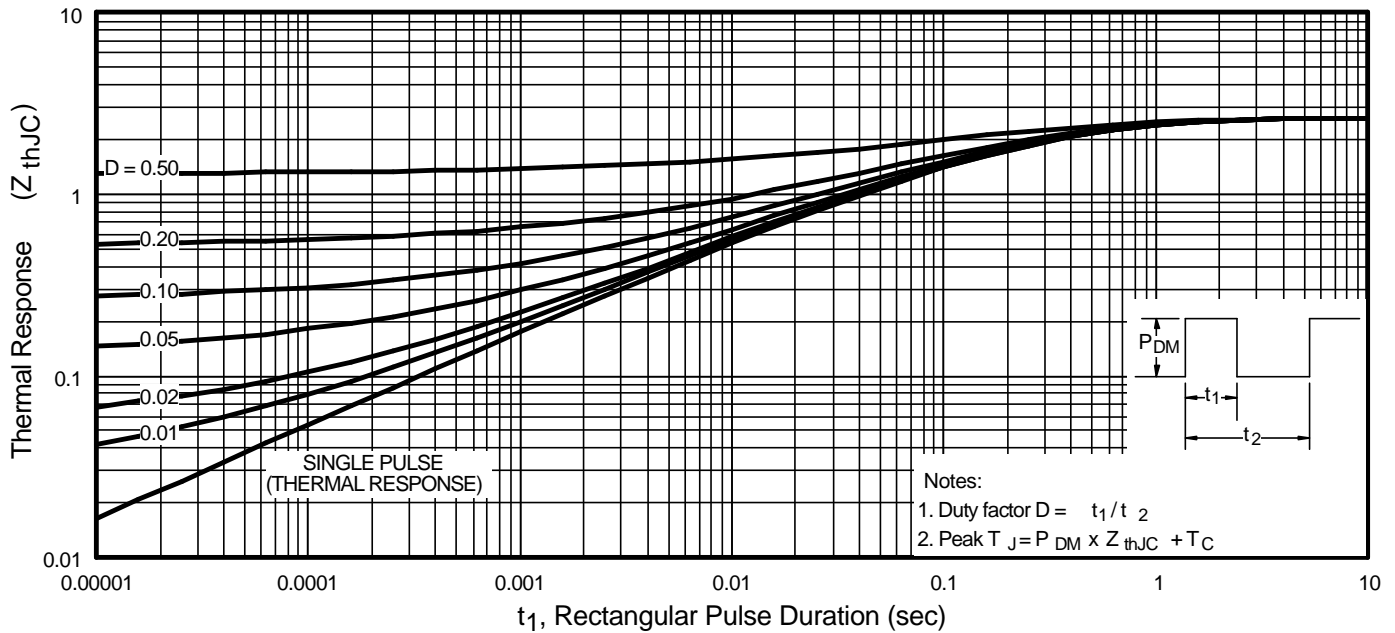

Fig 11. Maximum Effective Transient Thermal Impedance, Junction-to-Case
- ① Repetitive rating; pulse width limited by max. junction temperature. (See fig. 11)
- ② $V_{DD} = 25V$, starting $T_J = 25^\circ\text{C}$, $L = 390\mu H$